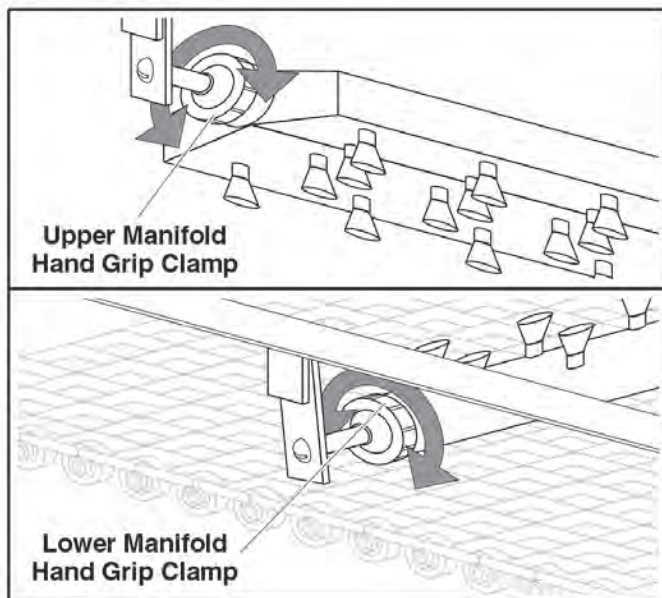

Figure 12
- b. Unscrew the Manifold Hand Grip clamp to loosen the Scraper Spray Manifold (Figure 12).